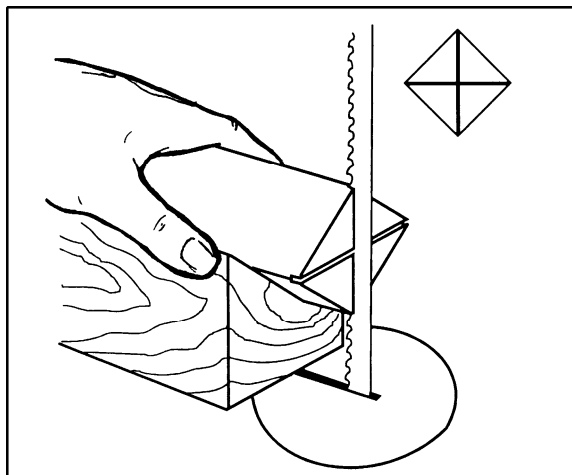

Figure 31
2. Extremely hard woods may require kerfs cut into the ends of the stock (Figure 31) using a band saw, so the wood will accept the spur center and the live center.